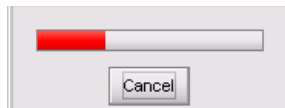

Figure 4-44 File Transfer Message Box
21. A *Transfer Complete* message box displays (Figure 4-44). As the transfer progresses, a progress bar travels across the message box to show percent completion.